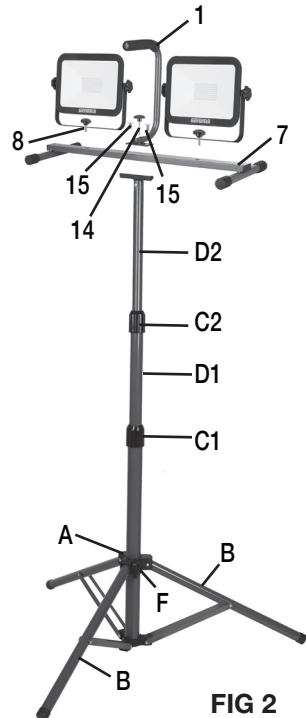

FIG 2
ATTACHING THE CARRYING HANDLE TO THE STAND (FIG 2)
1. Place the carrying handle (1) vertically on the stand (7).
2. Use two hex screws (15) to secure the carrying handle on the stand as shown in FIG 2.
ATTACHING THE WORK LIGHT HEADS TO THE STAND (FIG 2, 3)
1. Place the stand (7) on a flat surface.
2. Use the locking knobs (8), to secure both work light heads on the sides of the stand as shown in FIG 2.
ATTACH THE WORK LIGHT ASSEMBLY TO THE TRIPOD (FIG 2)